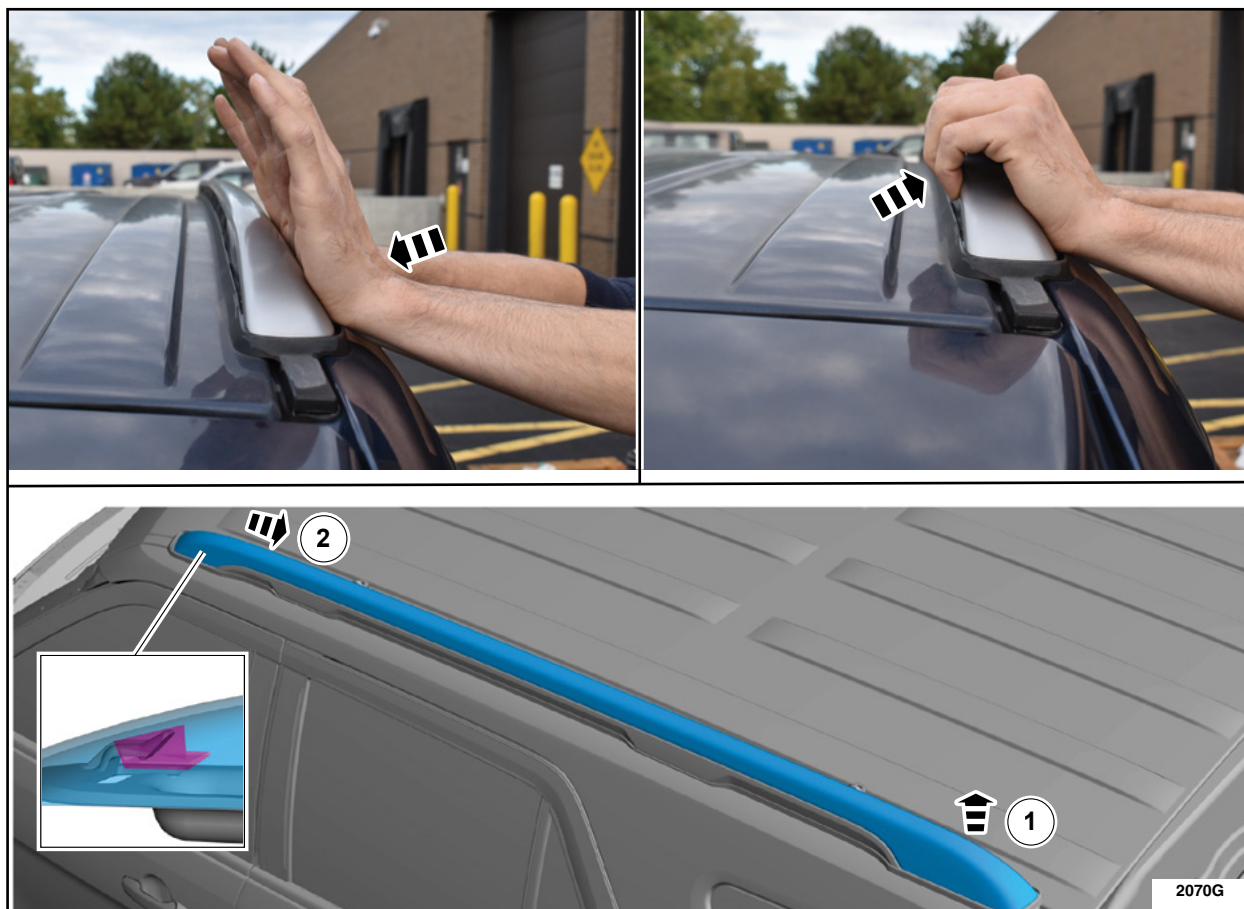

FIGURE 4
a. *Remove both roof rail covers. See Figure 4.*